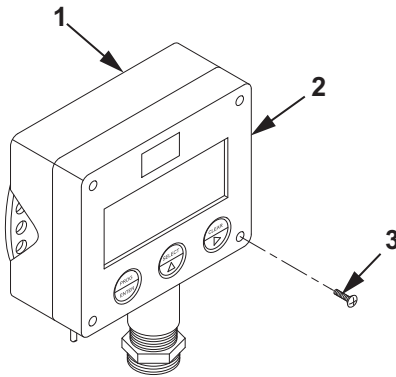

Figure 1. Tank Volume Meter Monitor Removal.
1. Remove four screws (Figure 1, Item 3) from front of volume meter (Figure 1, Item 1).
2. Remove cover (Figure 1, Item 2) from volume meter (Figure 1, Item 1).